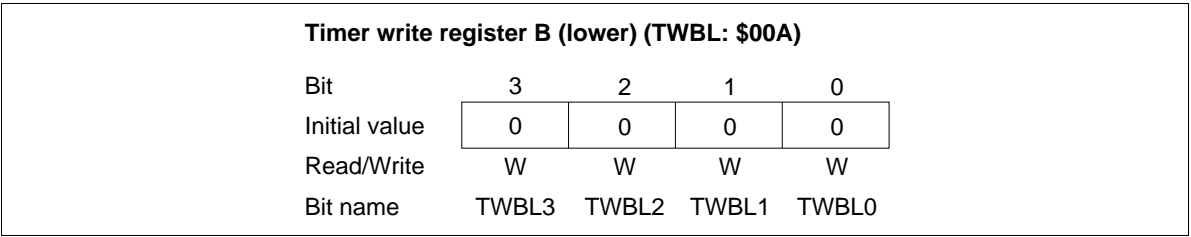

Figure 29 Timer Write Register B (lower) (TWBL)
- Timer write register B (TWBL: \$00A, TWBU: \$00B): Write-only register consisting of the lower digit (TWBL) and the upper digit (TWBU). The lower digit is reset to \$0 by MCU reset, but the upper digit value cannot be guaranteed. See figures 29 and 30.